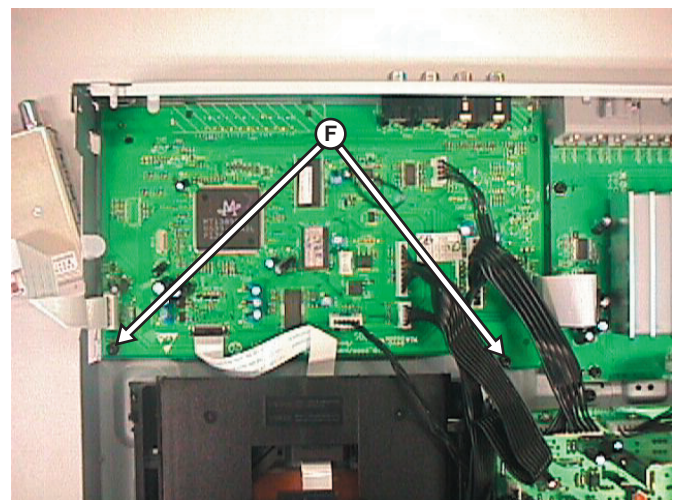

Figure 3-5
- 2) Loosen 2 screws D and E (See Figure 3-4 & Figure 3-5) to remove the Mono Board.